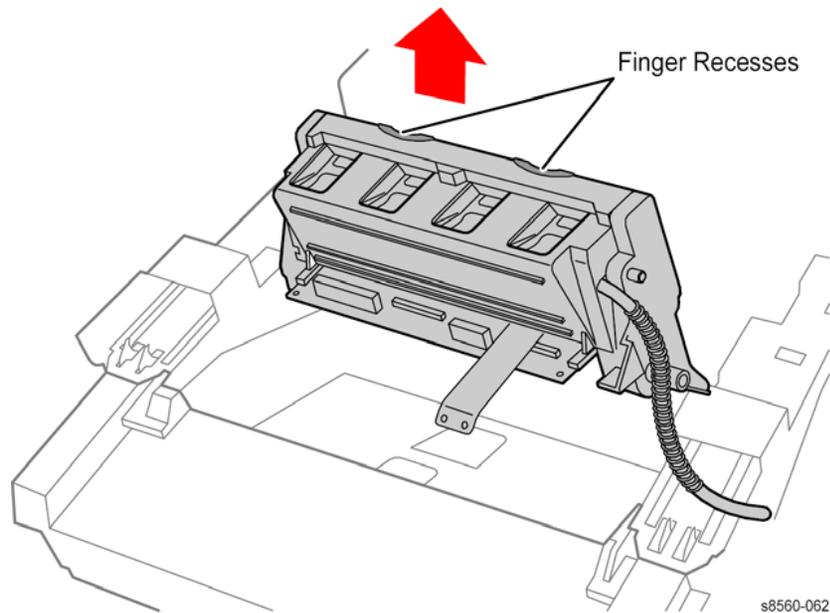

Figure 11 Lifting the Printhead
17. Lift the Printhead, using the finger recesses as shown in Figure 11, and place the ends of the shaft in the cradle notches provided near the top of the frame as shown in Figure 9.
19. Remove the Printhead as shown in Figure 11, using the Finger recesses provided.